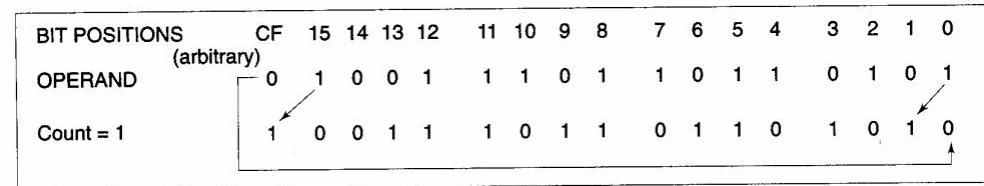

Figure 5.9
**RCL:** Rotate Left through Carry: This instruction rotates (bit-wise) the contents of the destination operand left by the specified count through the carry flag (CF). For each operation, the carry flag is pushed into LSB, and the MSB of the operand is pushed into carry flag. The remaining bits are shifted left by the specified positions. The SF, PF, ZF are left unchanged. The operand may be a register or a memory location. Figure 5.9 explains the operation